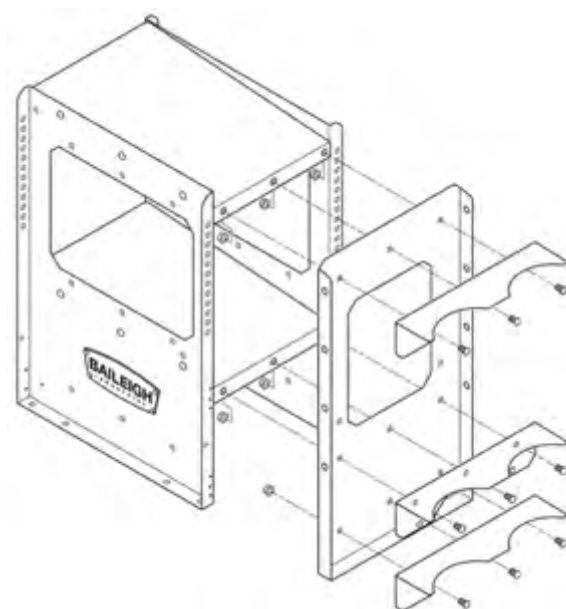

Figure 4-3
3. Using nine M8 x 20 Round-Head Square-Neck Carriage Bolts (item #2) with M8 Flanged Nylock Hex Nuts (item #4), attach End Panel (item #15) and three Tank Supports (item #16) to the Shelf/Side Panel assembly as shown in Figure 4-3. Attach to the end of the Shelf/Side Panel assembly where the Angled Shelves are at their lowest point. For the top and middle Tanks Supports, insert the Carriage Bolts through the Tank Supports, End Panel, and Angle Shelves. For the bottom Tank Support, only insert the Carriage Bolt through the Tank Support and End Panel. **Do not fully tighten nuts at this time.**